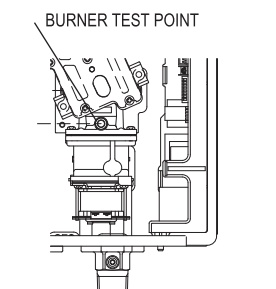

Fig. 2
- Attach the pressure gauge to the burner test point, located on the gas control (Fig. 2).